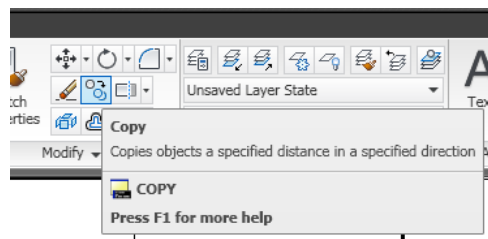

Figure 6.87
33. On the Home tab, on the Modify panel, click the Copy tool (see Figure 6.87).